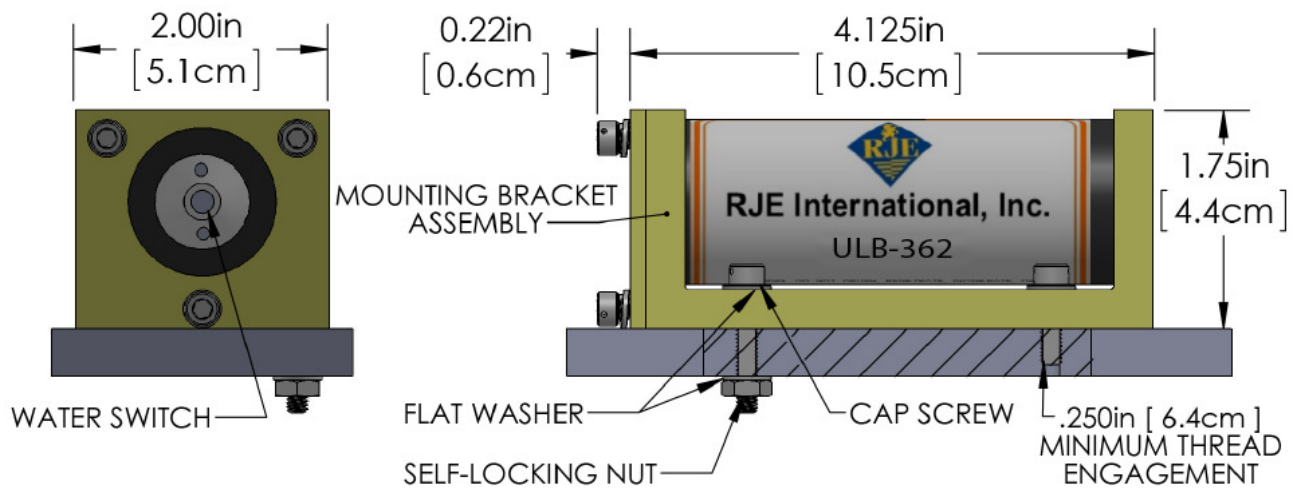

Figure 3-2 Securing the Mounting Bracket
Figure 3-2 Securing the Mounting Bracket	7
4. Secure the mounting bracket with four 10-32 stainless steel screws and associated hardware (not supplied) as shown in Figure 3-2.